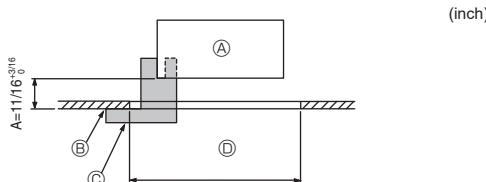

Fig. 6-2
①	Grille	1	950 × 950 (mm), 37-13/32 × 37-13/32 (inch)
②	Gauge	1	Divided into 4 parts
③	Screw (4 × 16)	1	For PLFY-WL-NEMU-E(1)
④	3D i-see Sensor corner panel	1	For PLFY-WL-NEMU-E(1)
6.2. Preparing to attach the grille (Fig. 6-2)
- With the gauge ② supplied with this kit, adjust and check the positioning of the unit relative to the ceiling. If the unit is not properly positioned relative to the ceiling, it may allow air leaks or cause condensation to collect.